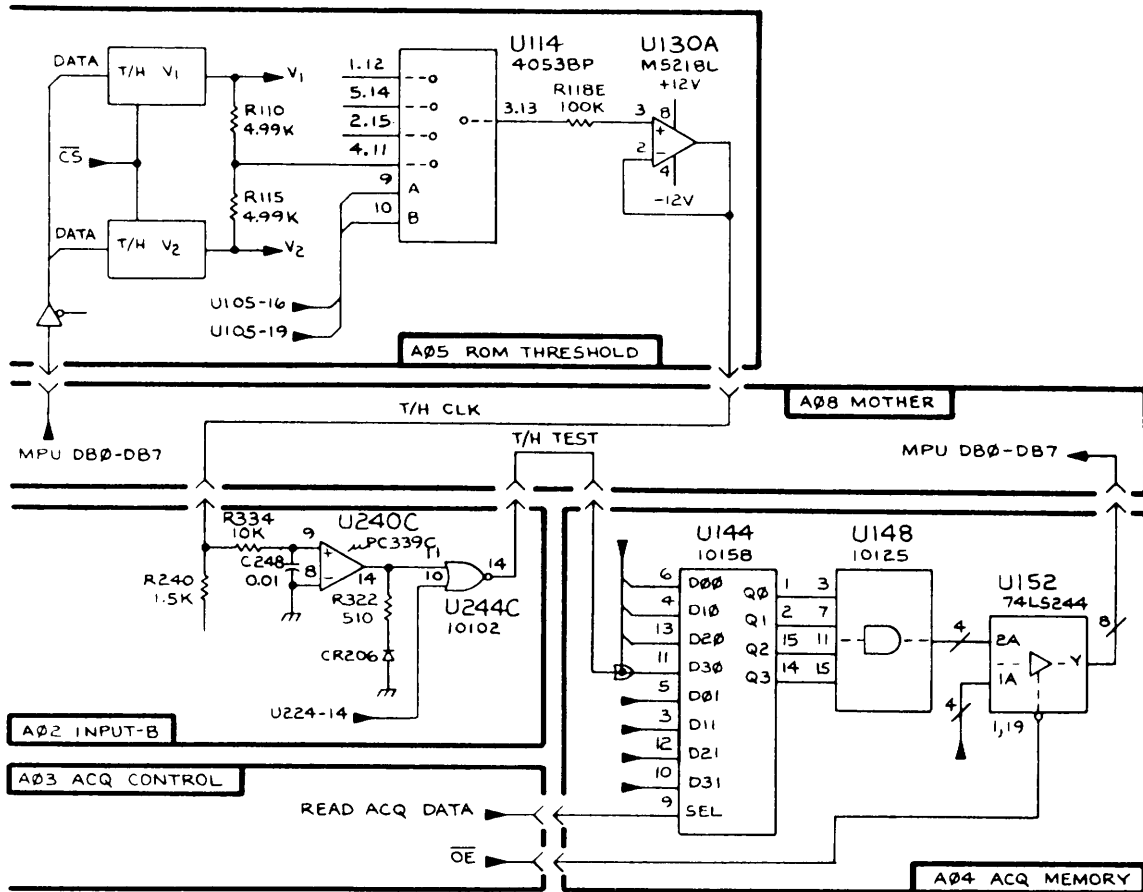

Figure 7-11. 318 Threshold test.
**Description:** Refer to Figure 7-11. Two levels of voltage, one for V1 and the other for V2, are produced by DAC U070 and U080 (CMOS 8-bit buffered multiplexing DAC, AD7524) on the A05 ROM/Threshold board. When the MPU writes data into these DACs, this setting is latched inside. The data is supplied from U216 (octal bus transceiver with 3-state output, 74LS245) on the A06 MPU/Display board through the A08 Mother board, and U045 (74LS245) on the A05 board.